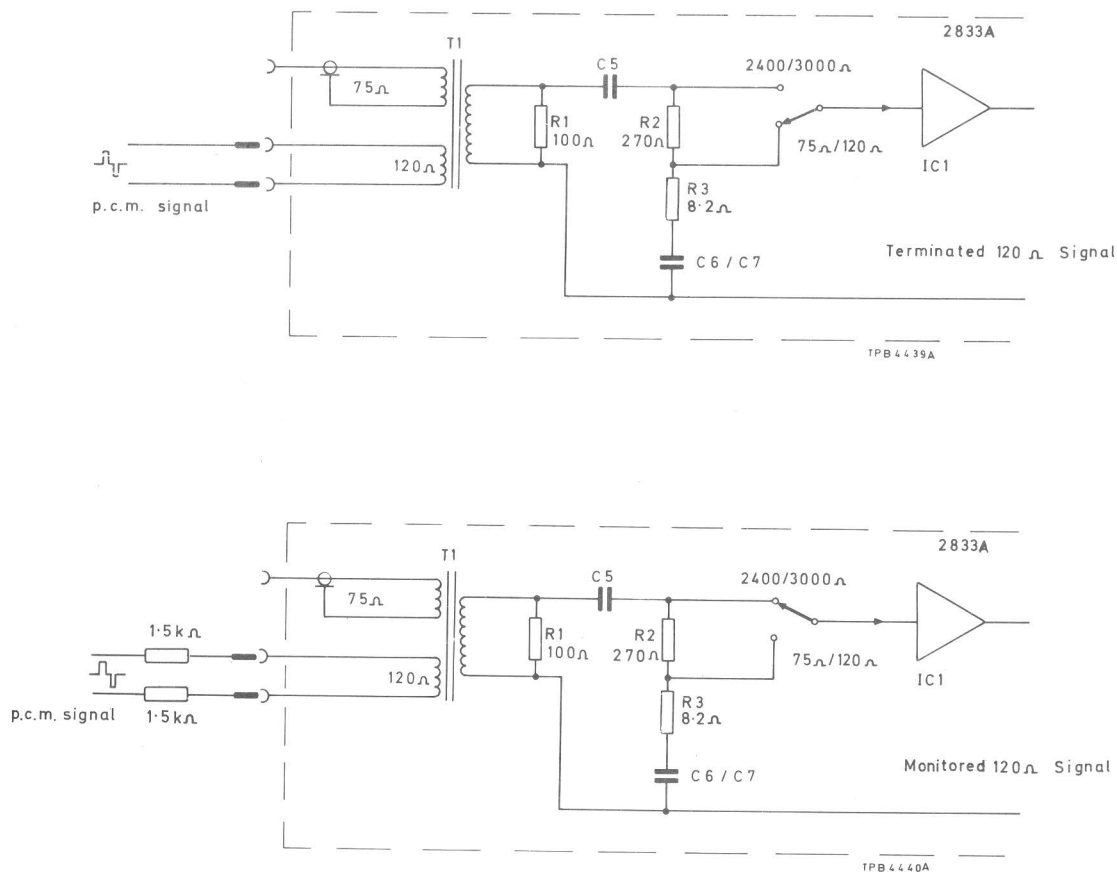

Fig. 4 Terminated and Monitor modes for $120\ \Omega$ systems
6. For $120\ \Omega$ systems, connect the signal to the $120\ \Omega$ INPUT. If the 2833A is to terminate a $120\ \Omega$ system, depress SOURCE $75\ \Omega/120\ \Omega$ switch to select $120\ \Omega$ termination. If the 2833A is required to monitor a $120\ \Omega$ system via a $3\ \text{k}\Omega$ resistance, depress SOURCE $2400\ \Omega/3000\ \Omega$ switch to select $3000\ \Omega$ (see Fig. 4).